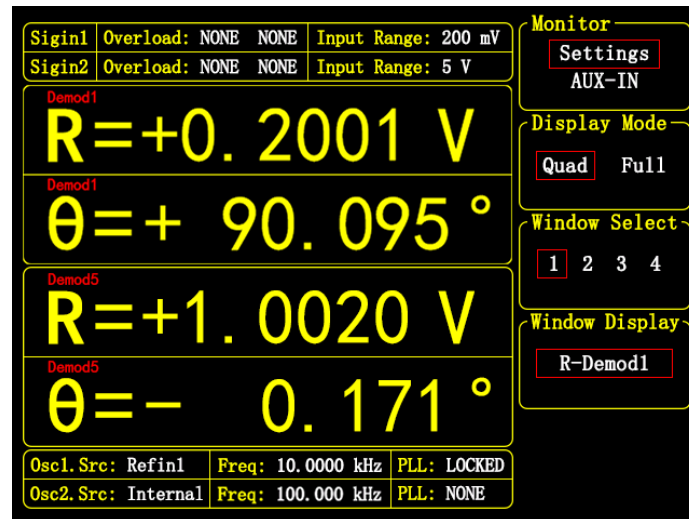

Figure 56. [DISPLAY] submenu
Select the [DISPLAY] submenu from the front-panel MENU bar, as shown in the right-side panel of Figure 56.
- <Quad> : Four-window display mode, displaying four measurement values at the same time. This mode is shown in Figure 56.